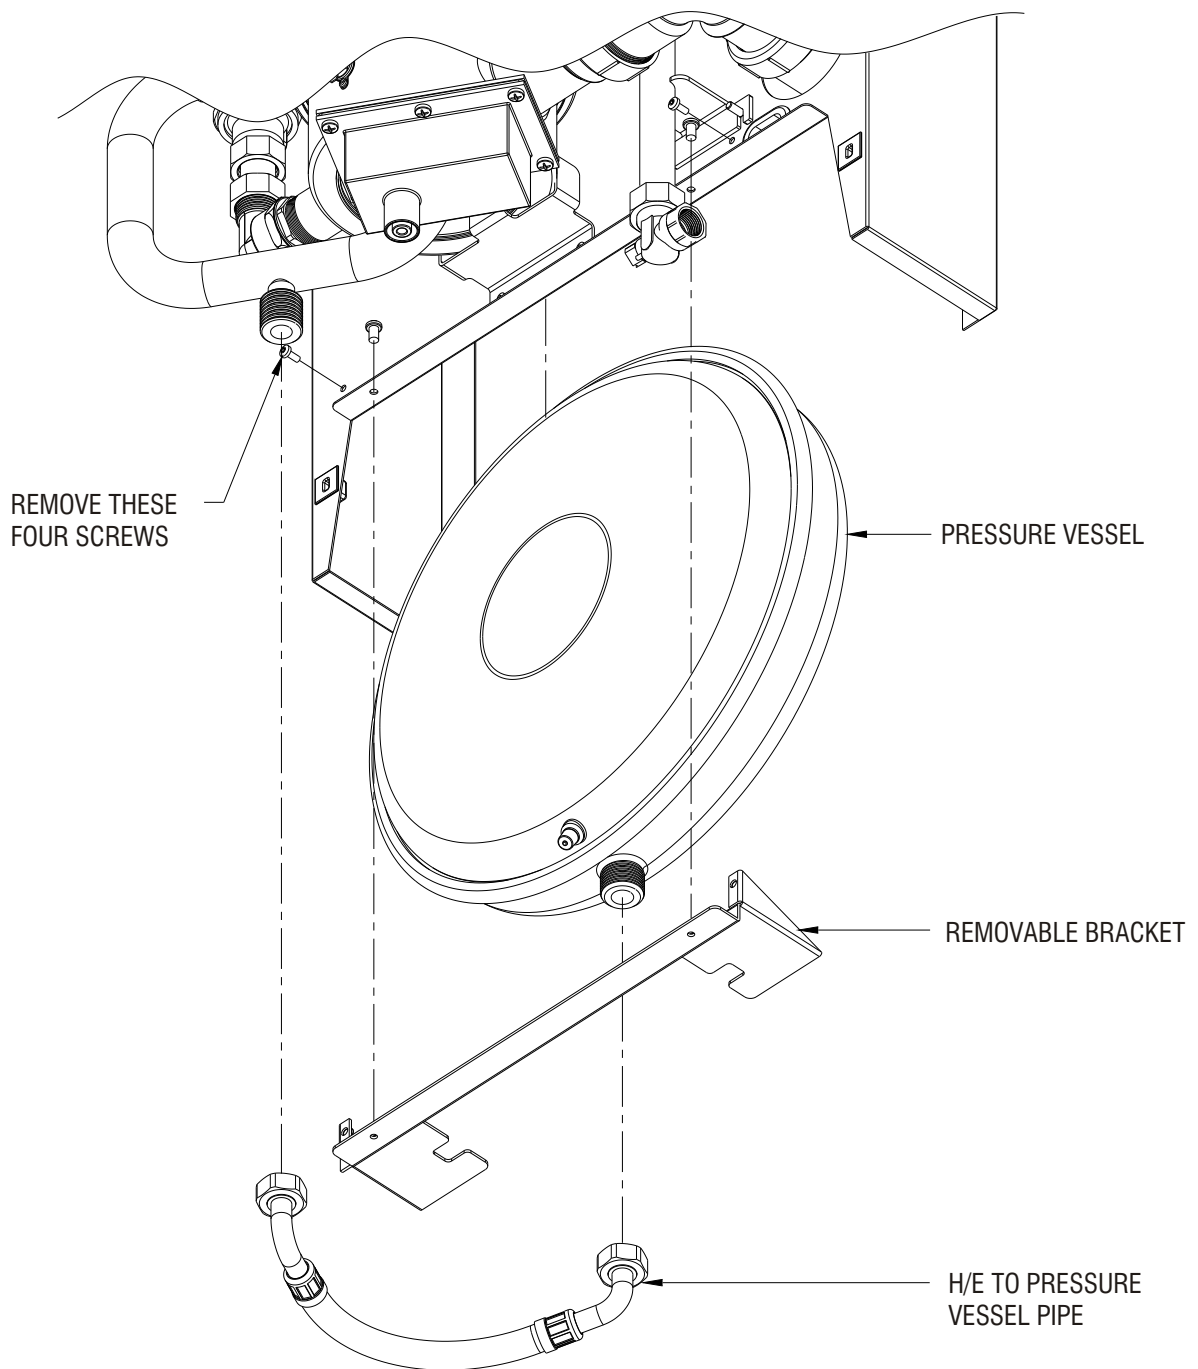

Figure 9D (Expansion vessel support bracket removal)
- v) Support the expansion vessel and undo the four screws fixing the expansion vessel support bracket and withdraw the vessel from below the boiler. (See Figure 9D)